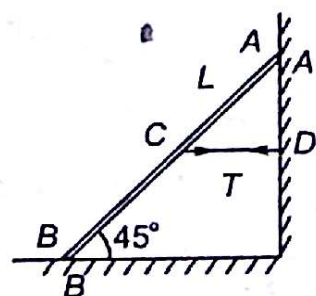

Fig. 9.33
9.2 A uniform ladder of length L and weight 100 N rest on a smooth floor and against a vertical wall. A horizontal rope CD prevent the ladder from slipping. Angle of inclination of ladder is 45° . What is tension T (Fig. 9.33)?